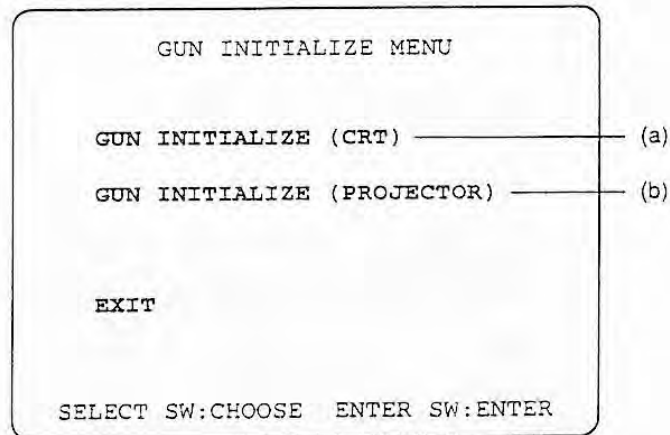

Fig.1 GUN INITIALIZE MENU screen
- 1 While on the I/O TEST screen, select GUN INITIALIZE and press the enter switch. (Or turn on the test switch while holding down the service switch.) The GUN INITIALIZE screen (Fig. 1) will then appear.